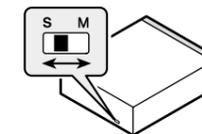

Fig. 18
- IP-BUS mode (S) – Using with a Pioneer head unit featuring an IP-BUS input or multi-channel processor control unit
- ADD-ON mode (M) – Using with a car stereo featuring RCA audio inputs or FM reception capability
- **Use a thin standard tip screwdriver to switch the operation mode switch on the back of this unit. (Fig. 18)**